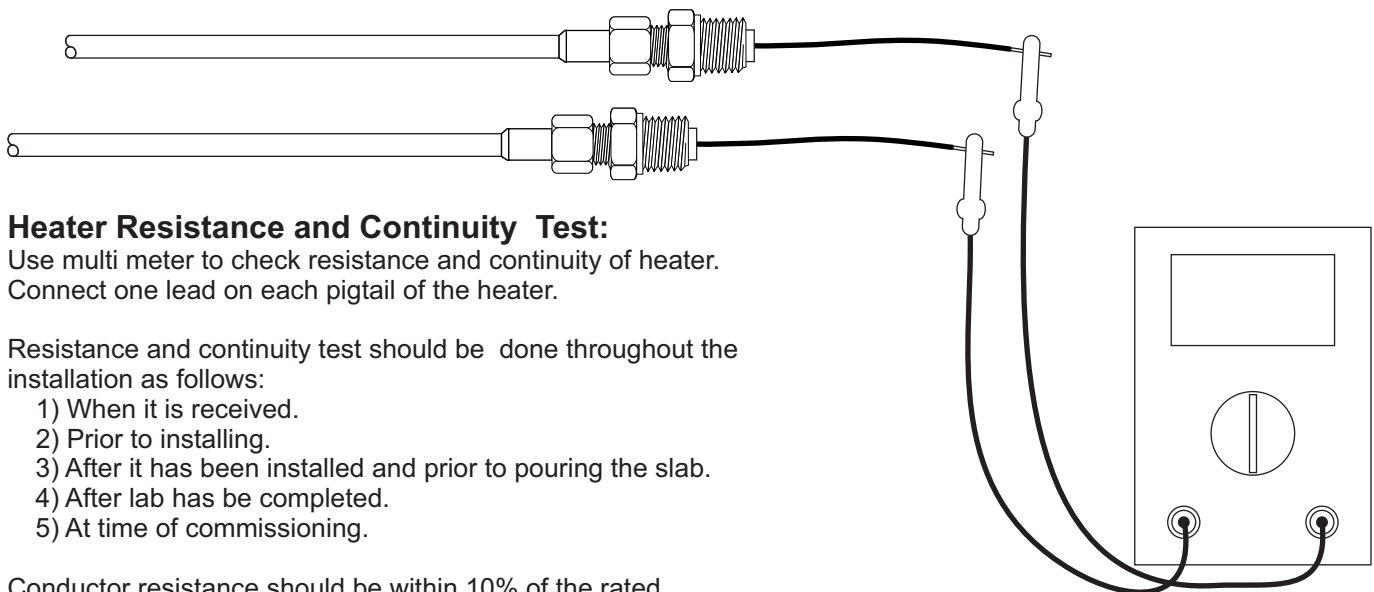

Figure 13
- ① Resistance should be within 10% of design value. See page 21, Figure 13.
- ③ Use megger or ohm meter to verify continuity. See page 21, Figure 13.